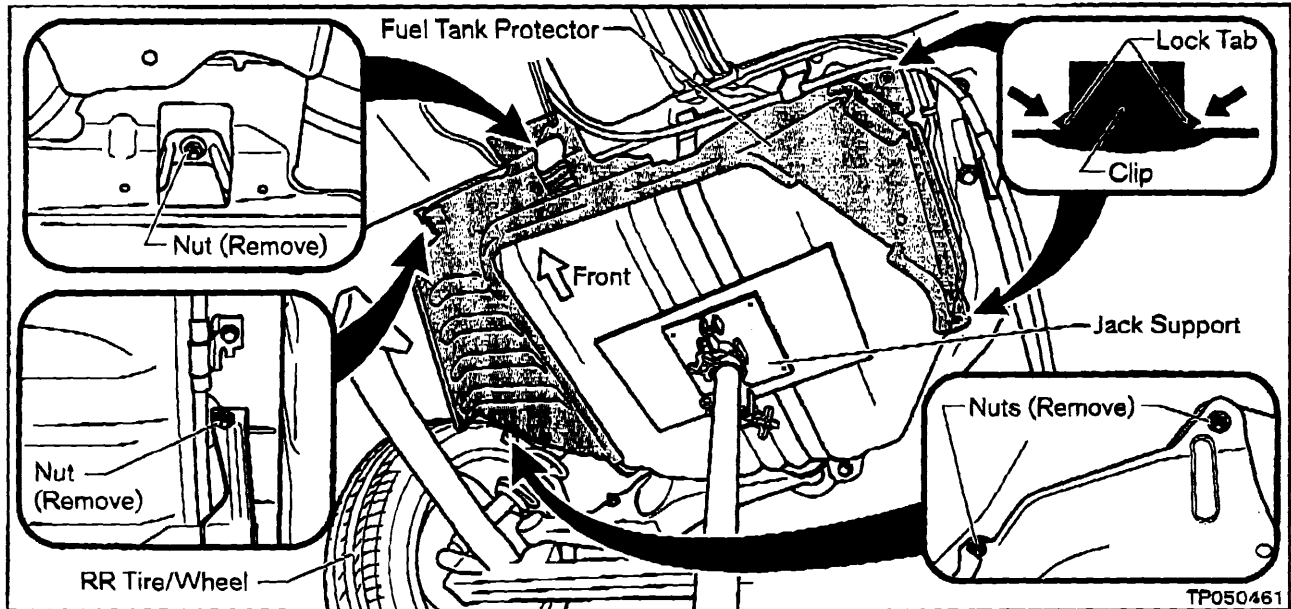

Figure 11
- a. Remove four Nuts and two Plastic Clips that hold the Fuel Tank Protector (see Figure 11).
- To remove the Plastic Clips, press IN on the Lock Tabs (see Figure 11).